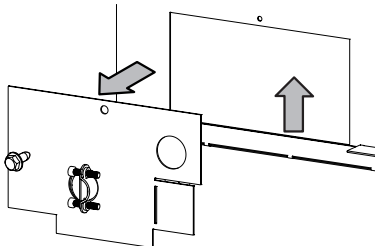

Figure 30
6. Re-install the junction box into the firebox using the screw removed in step 3. **See Figure 30.**